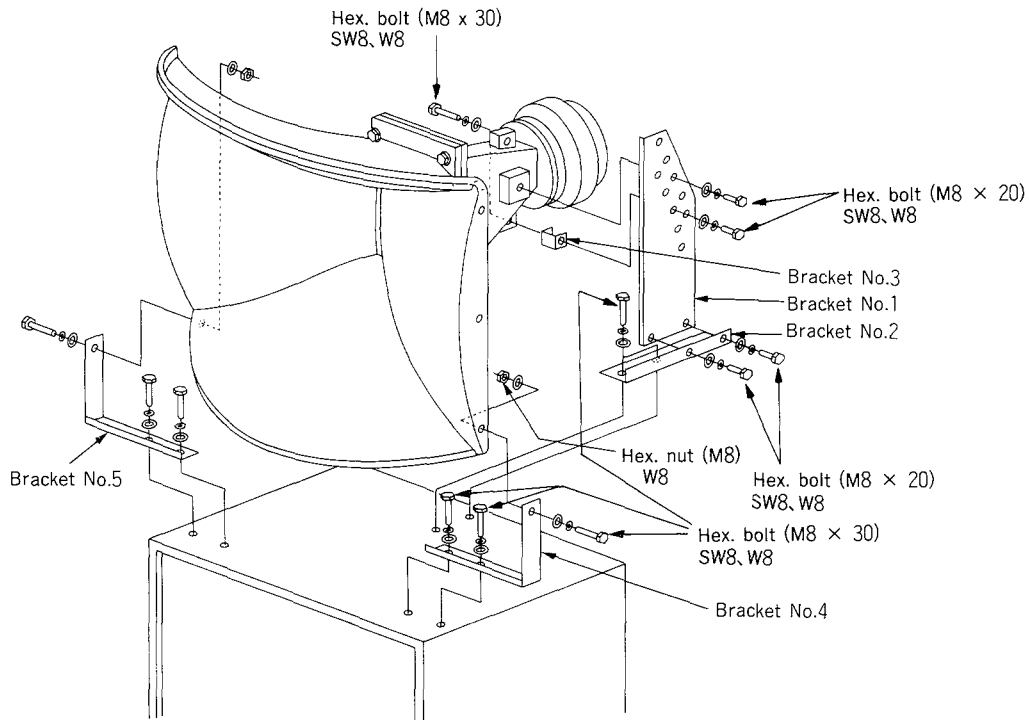

Figure 2
1. Referring to Figure 2, securely mount the horn using the parts supplied with the bracket set.
Note: When mounting the horn using the bracket No.1, mount it with the hexagon bolts (M8x20) at two points as shown in Figure 2.